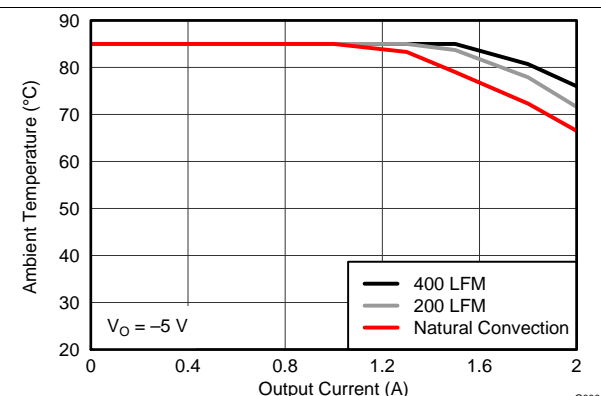
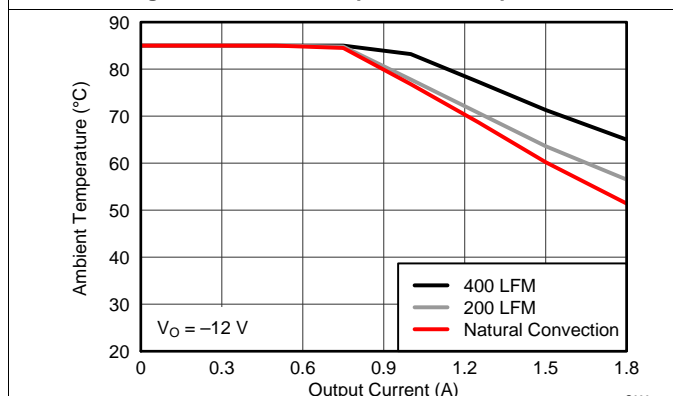

Figure 22. Safe Operating Area
Figure 23. Safe Operating Area
- (3) The temperature derating curves represent the conditions at which internal components are at or below the manufacturer's maximum operating temperatures. Derating limits apply to devices soldered directly to a 100 mm x 100 mm, 4-layer, double-sided PCB with 1 oz. copper. Applies to Figure 22, Figure 23, and Figure 24.